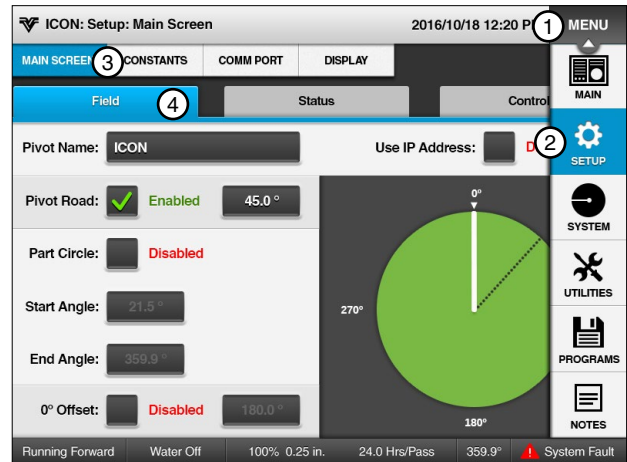

Figure 11-1 1. Menu 2. Setup 3. Main Screen 4. Field
Push **Menu**, **Setup**, and **Main Screen** to display the Main Screen menu. Refer to Figure 11-1.
1. Push **Menu**, **Setup**, **Main Screen**, and **Field** to display the Field screen. Refer to Figure 11-1.